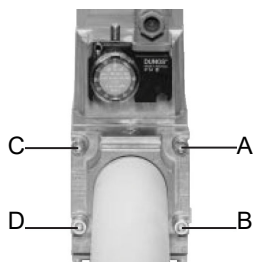
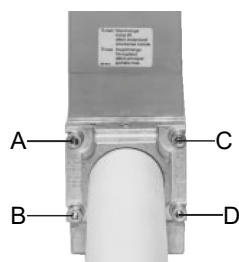

Fig. 5
Fig. 6
- 1 Loosen screws A and B **do not** unscrew (Fig. 5 e Fig. 6)
- 2 Unscrew screws C and D (Fig. 5 e Fig. 6)